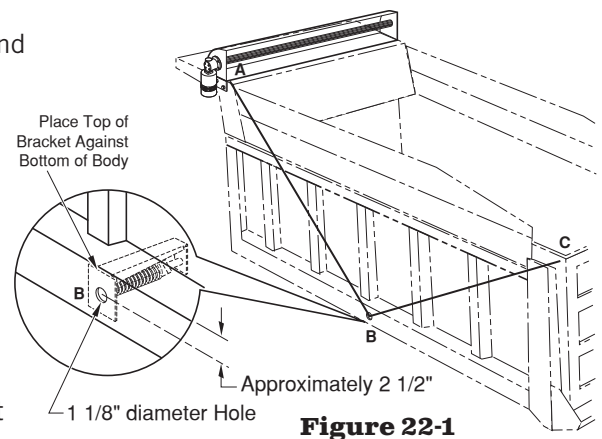

Figure 22-1
NOTE: Figure 22-1. Notice that the spring assembly (B) is one point of a triangle. The other two points (A & C) are on top of the truck. The two downward-pointing legs of the triangle must be the same length. These steps will make sure that the two legs are equal.
- 1) Mark the rear edge of the tarp housing or the mounting plate in line with the tarp roll up bar on the driver's side and passenger's side. Mark these points and call them (A).
- 2) Determine where you want the rear of the tarp to be when it fully covers the box. Mark these points and call them (C).
- 3) **Figure 22-1.** Find a point at the side of the box that is the same distance from A and C. This is point B, where the spring assembly will be mounted. Mark this point on both sides.